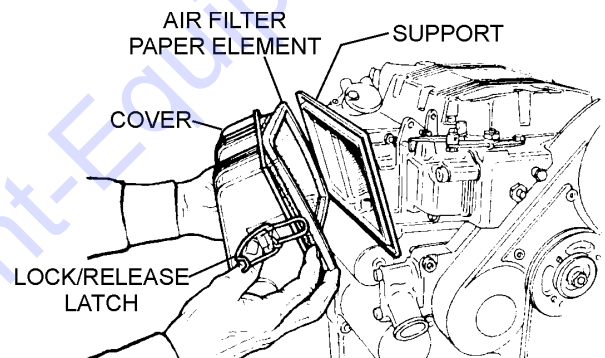

Figure 26. Air Cleaner Components
1. Release the locking latch and remove the air filter paper element as shown in (Figure 26).